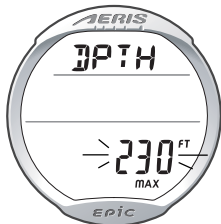

Fig. 49 - SET DEPTH
**SET DEPTH ALARM** information includes (Fig. 49):